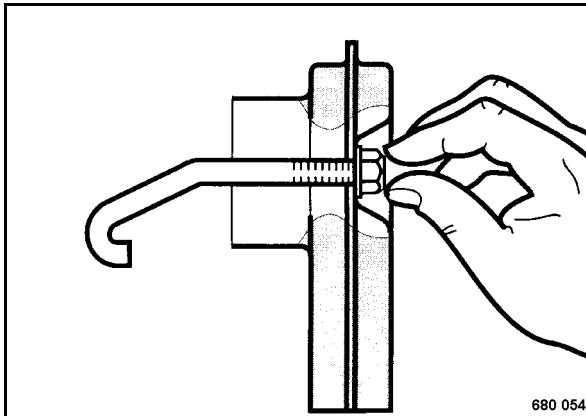

Fig. 57
- Insert the fastening bracket into the opening in the exhaust screen and screw the fastening nut for approx. 1 turn (Fig. 57).